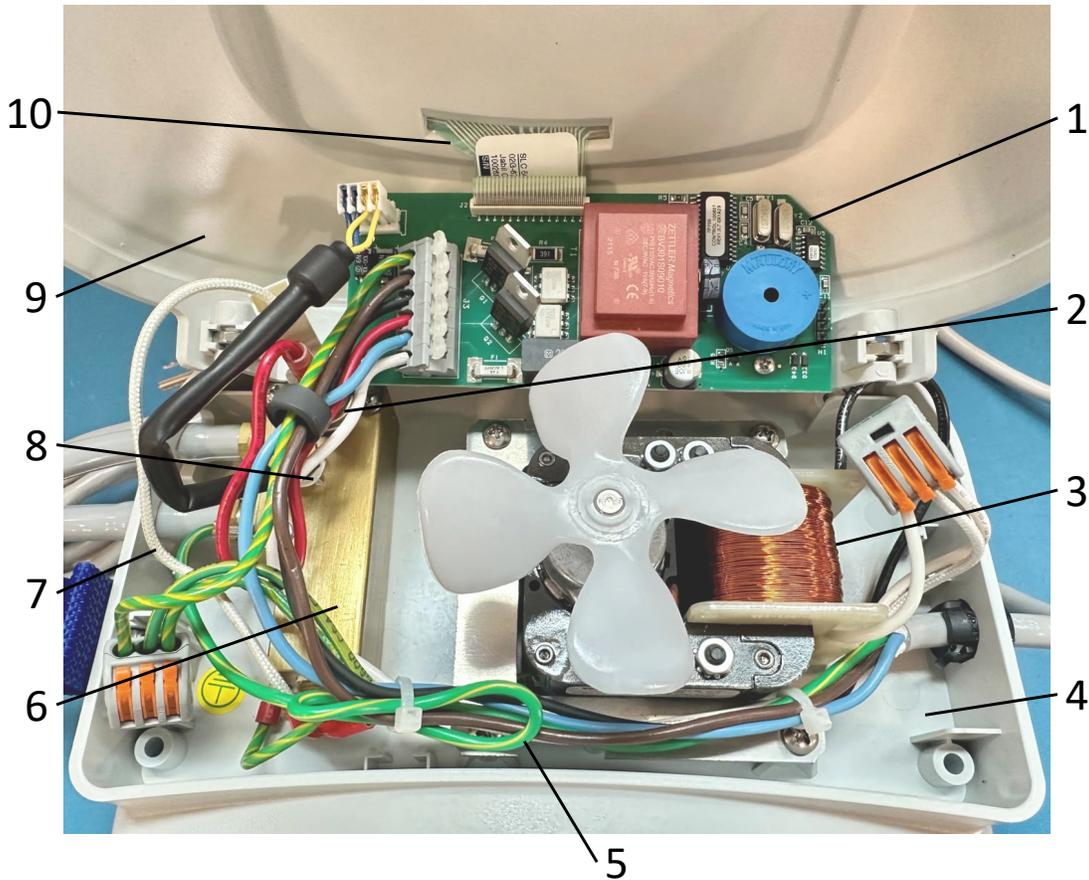

Figure 5: T/Pump® Temperature Therapy Pump service items
- Using a ground resistance meter, measure the resistance between the ground pin on the plug and the brass manifold block, see Figure 5 on page 25 item 6. You can access the ground through the hole where the hose connects to the pump (see Figure 4 on page 20).
The pump is a sump configuration. It is magnetically coupled to an impedance protected, shaded pole AC Motor (Figure 5 on page 25 item 3).
The Orificed Hose Fitting (Figure 5 on page 25 item 7) is internal to act as an opening. This maintains a back pressure in the pad to make it resistant to flow restrictions.
6. Remove the Keypad Ribbon cable (Figure 5 on page 25, item 10) from the PC Board (Figure 5 on page 25, item 1).
7. Remove the Temperature Sensor (Figure 5 on page 25, item 8) from the PC Board.